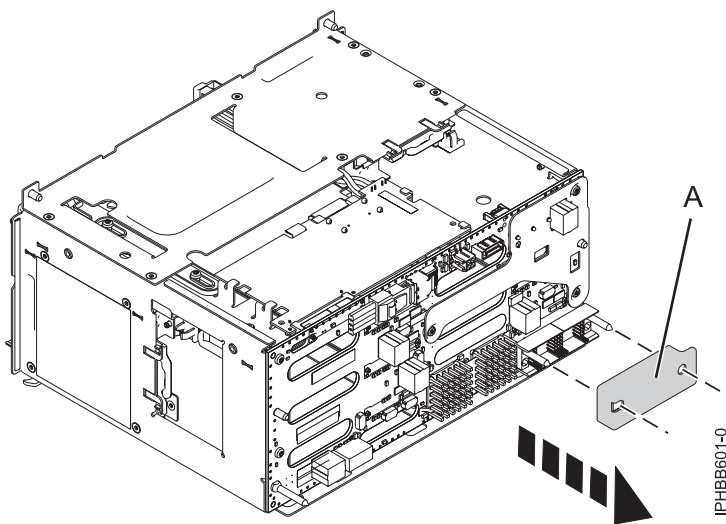

Figure 10. Removing the protective cover from the connector pins
3. Check for a protective cover that might be present on the lower-right connector pins. If a protective cover is present, remove the cover (A), as shown in Figure 10.